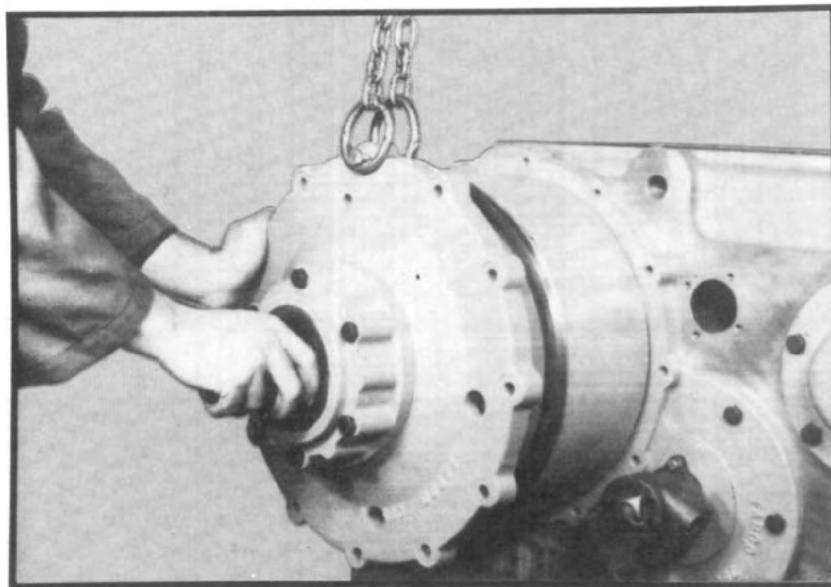

Fig. 158
- 3.28 Using a chain hoist, lift the planetary cap assembly into place. Slide planetary internal gear onto the planetary gears (See fig. 158.) Be sure the oil drain plug is facing toward the bottom of the transfer case. Tap planetary cap firmly onto planetary housing.